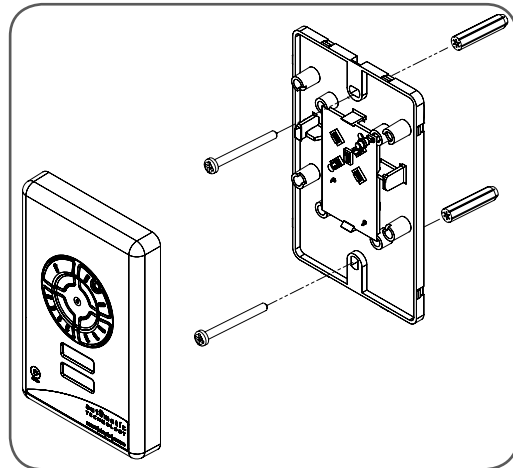

fig 33
- Affix the baseplate in a convenient wall location that is out of reach of children and convenient to the customer (**Fig 33**). Make sure the door is visible from this location.
- Press and hold the SET Button (**Fig 33**).